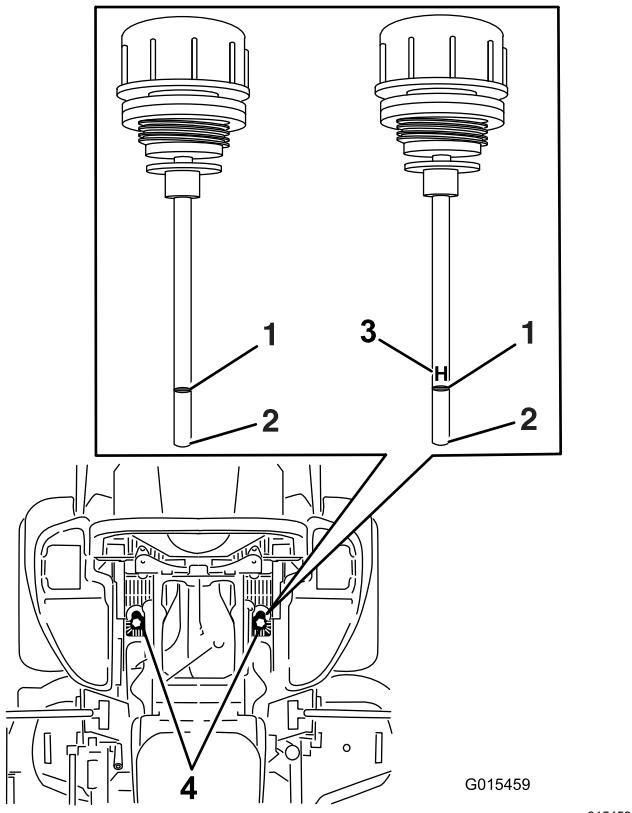

Figure 84
5. Clean the area around the dipsticks of hydraulic-system reservoirs (Figure 84).
6. Remove 1 dipstick from the hydraulic reservoir (Figure 84).
8. Remove the dipstick and look at the end (Figure 84).